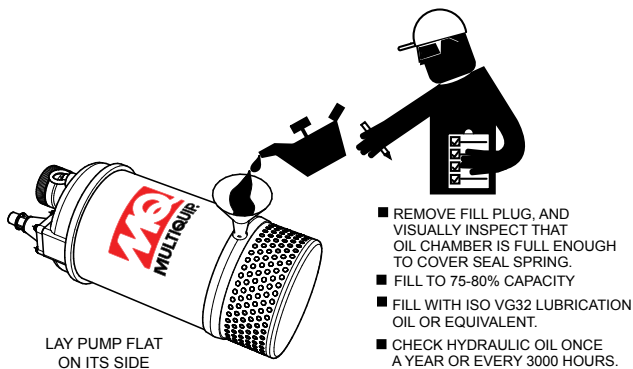

Figure 22. Adding Lubrication Oil
1. Lay the pump (Figure 22) on its side with the oil plug facing upwards.
2. Use a funnel (Figure 22) and fill oil chamber with ISO VG32 lubrication oil or equivalent. Oil chamber capacity is 40 oz. (1,200 cc) for ST41230/ST41460 and 47 oz (1,400 cc) ST61230/ST61460. Fill to 75-80% capacity to allow for expansion. Replace lubrication oil once a year or 3,000 hours.